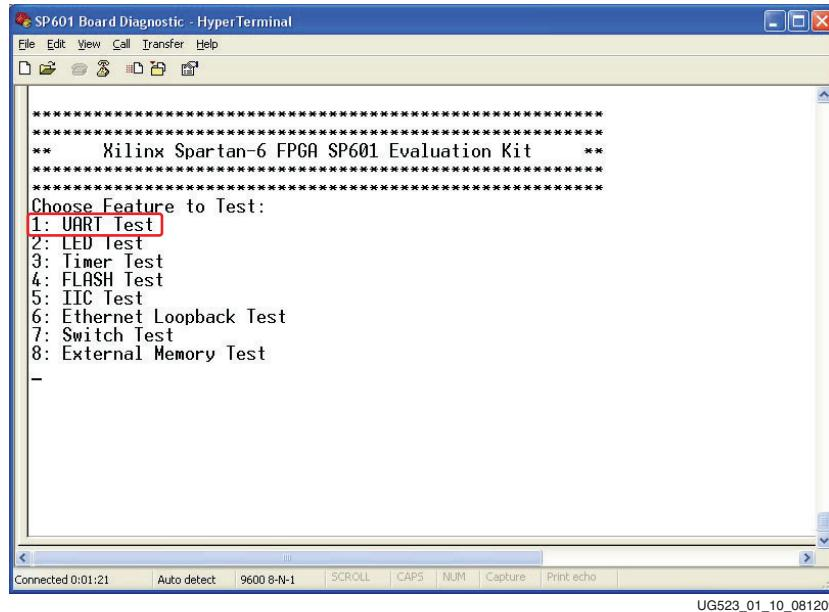

Figure 1-11: SP601 Diagnostic Demo Menu Items
9. Be sure to have the SP601 board powered “ON”, then press the PROG (SW3) Push Button on the SP601 board to load the Diagnostic Menu. When the SP601 Diagnostic Demo loads from the SPI FLASH, it will print the text to the HyperTerminal Window as shown in Figure 1-11.